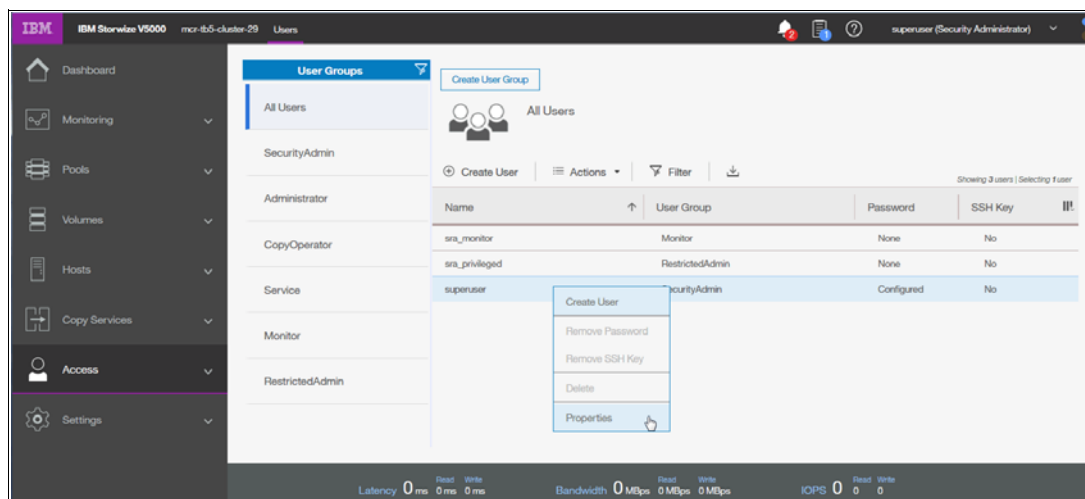

Figure A-7 Superuser properties
2. Under User Groups, select **All Users**. Right-click the user name for which you want to upload the key and click **Properties** (Figure A-7).